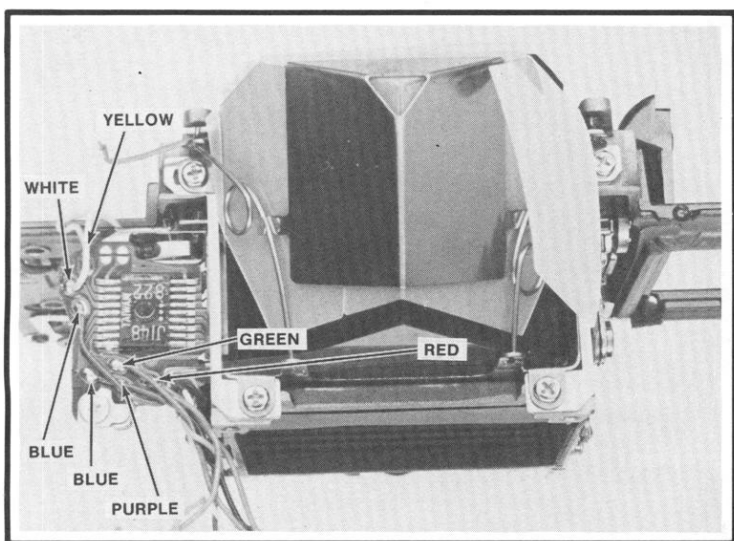
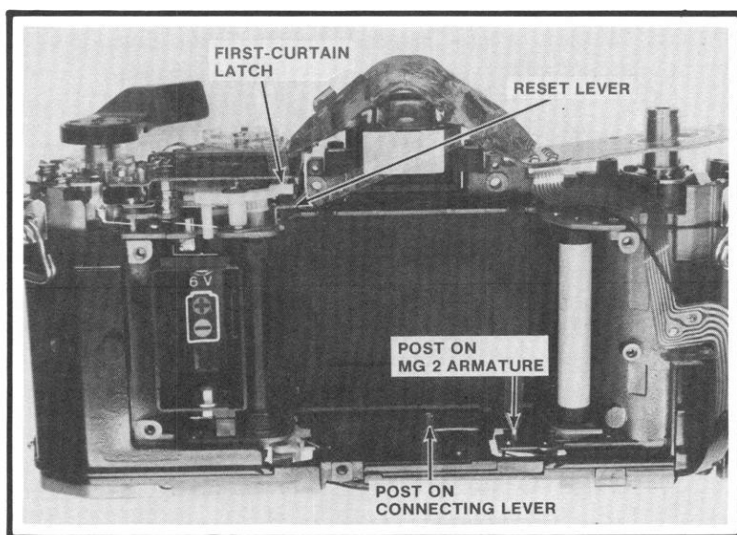
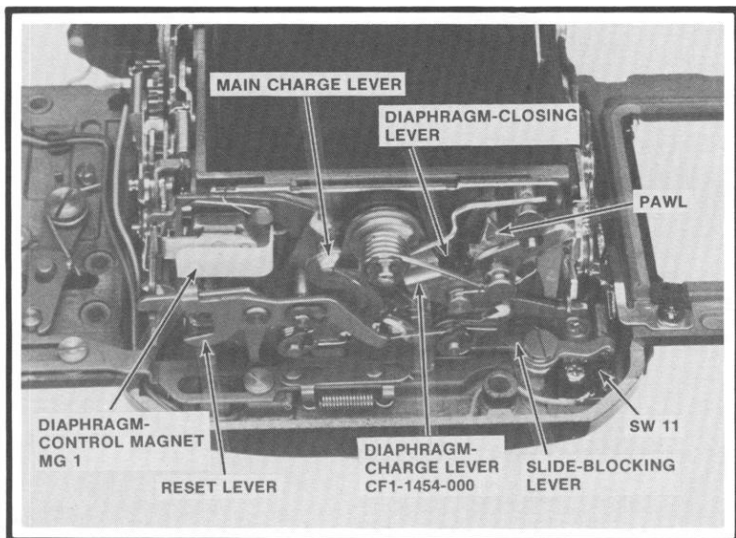
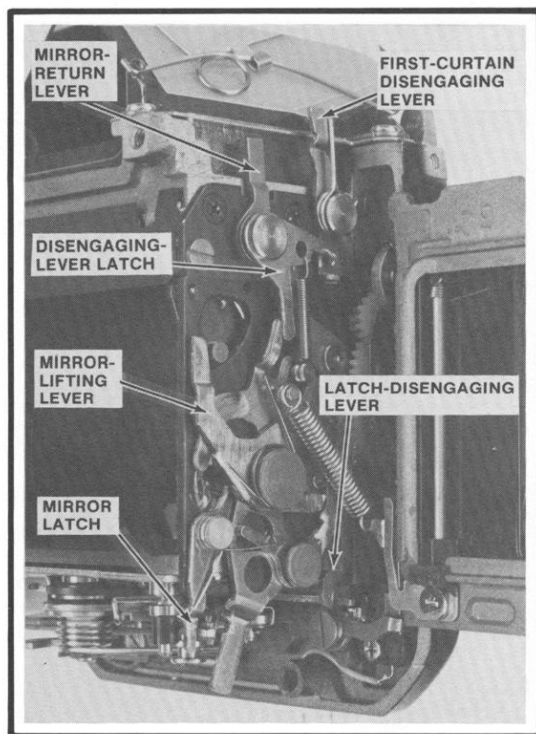

Figure 42
Figure 43
Figure 44
Figure 45
13. Open the battery compartment. Then, inserting your thumb into the battery compartment for a grip, lift out the front-plate/mirror-housing assembly, Fig. 42.
Note: It's possible to remove the front-plate/mirror-housing assembly without taking out the piezo beeper. However, it's difficult to seat the front-plate/mirror-housing assembly with the piezo beeper in place. Removing the beeper also prevents possible damage to the LED display board, Fig. 42.
1. Make sure the shutter is in the released position. To release the shutter, push the first-curtain latch, Fig. 43, toward the back of the camera.
5. As you seat the mirror assembly, pass the wires, Fig. 42, under the film-speed base plate, Fig. 43. The ends of the wires should be accessible at the back of the camera.
The mirror operation is nearly identical to that in other A-series Canons. Cock the mirror by pushing the main charge lever, Fig. 44, in a counterclockwise direction. The MG1 armature now moves against the core of the diaphragm-control magnet.
Release the mirror by pushing the U-shaped end of the reset lever, Fig. 44, toward the front of the mirror assembly. A spring now drives the diaphragm-charge lever, Fig. 44, counterclockwise. The end of the diaphragm-charge lever moves away from the end of the mirror-lifting lever and strikes the mirror latch, Fig. 45.
Disengaging the mirror latch allows the mirror-lifting spring, Fig. 45, to pull the mirror-lifting lever in a clockwise direction. An arm on the mirror-lifting lever comes against a post on the mirror bracket, driving the mirror to the raised position.
The diaphragm-charge lever also operates the diaphragm-closing lever, Fig. 44. A pawl on the diaphragm-charge lever engages the tab on the diaphragm-closing lever. As the diaphragm-closing lever rotates counterclockwise, the pawl carries the diaphragm-closing lever in the same direction. The end of the diaphragm-closing lever, passing through the lens mount, allows the lens diaphragm to stop down.
To return the mirror and reopen the diaphragm, push forward the mirror-return lever, Fig. 45. The mirror-lifting lever now moves counterclockwise—away from the post on
Pushing forward the mirror-return lever disengages the lifting-lever latch to free the mirror-lifting lever. The latch-disengaging lever that disengages the lifting-lever latch also disengages the pawl from the diaphragm-closing lever. Note that the lower end of the latch-disengaging lever, Fig. 45, comes against the pawl-disengaging lever. The pawl-disengaging lever pulls the pawl out of engagement with the tab on the diaphragm-closing lever, allowing the lens diaphragm to reopen.
In normal operation, the connecting-lever post, Fig. 43, charges the mirror. The post comes against the curved end of the main charge lever. A post on the MG2 armature, Fig. 43, strikes the U-shaped end of the reset lever to release the mirror.
The mirror then rises and releases the first curtain. An arm on the mirror-lifting-lever assembly strikes the disengaging-lever latch, Fig. 45. The first-curtain disengaging lever then moves toward the shutter and strikes the first-curtain latch, Fig. 43.
With the mirror housing removed, however, the first-curtain disengaging lever doesn't move. That's because the shutter must first charge the first-curtain disengaging lever. During the cocking stroke, the reset lever in the shutter, Fig. 43, pushes the first-curtain disengaging lever forward—until the first-curtain disengaging lever is latched by the disengaging-lever latch.
The S.AVE contact only controls the diaphragm closure when the lens is at the auto setting. At auto, the pin at the back of the lens pushes in the EM change pin in the lens mount. The EM change pin then opens SW11, the auto/manual switch, Fig. 44.
Also, the EM change pin moves the slide-blocking lever, Fig. 44, into the path of the stop-down slide. The slide-blocking lever prevents you from using the depth-of-field preview on auto. To use the depth-of-field preview, you must first set a manual *f/stop*.
As in other A-series Canons, the three panels—the mirror mechanism, the AE unit, and the auto-diaphragm unit—attach to the sides of the mirror housing. You can remove the mirror mechanism, Fig. 45, individually. But remove the AE unit and the auto-diaphragm unit together.
2. Seat the mirror mechanism. Make sure the mirror latch sits behind the arm of the diaphragm-charge lever, Fig. 45. Also position the latch-disengaging lever behind the end of the pawl-disengaging lever, Fig. 45. Replace the three mirror-mechanism screws.
1. Unsolder the blue wire from the LED circuit board, Fig. 42.